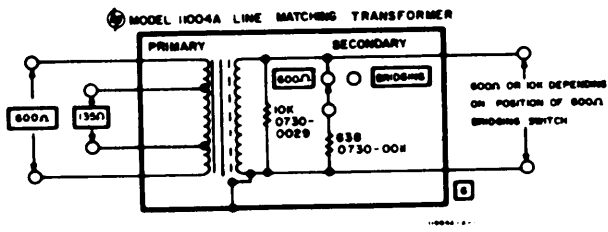

Figure 10-2. 11004A line matching transformer, schematic diagram.
*Measurements can be made in dbm directly for either 135 or 600  $\Omega$  connections provided the line is terminated. However, accurate voltage measurement can be read directly for the 600  $\Omega$  connection only. A schematic diagram of the Model 11004A is shown in Figure 10-2.*